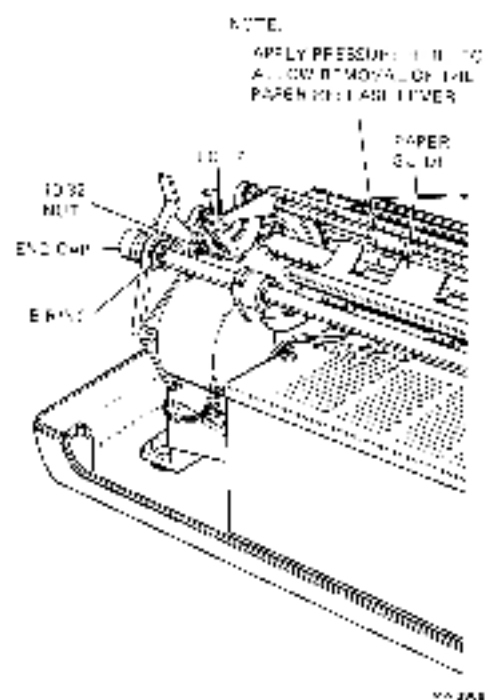

Figure 7-7 Friction Assembly Removal
2. Lift bail bar to gain access to the paper guide. Lift paper guide straight out (Figure 7-7).
3. Remove the J-clip that secures the paper release lever to the bail bar assembly (Figure 7-7).
4. Remove the (10-32) nut that secures the paper release lever to right side plate (Figure 7-7).
6. With a blade screwdriver, remove the E-clip that secures the friction assembly end cap to the right side plate (Figure 7-7).
7. Remove the end cap from the friction assembly (right side plate side) (Figure 7-7).